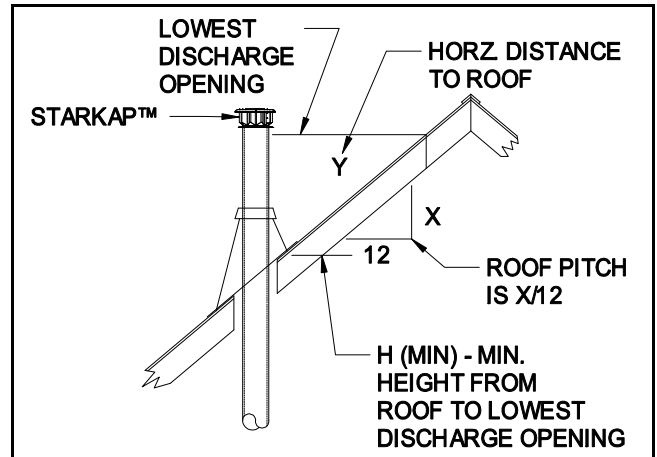

Figure 1
1. Install and secure the vertical vent, gas vent or metal vent according to manufacturer's instructions or in accordance with NFPA 54 National Fuel Gas code or CSA-B149.1 the National Building Code of Canada and the Installation Code for Gas Burning Equipment or applicable local codes. The termination of the vertical vent or metal vent **MUST** be installed in accordance with the height and roof pitch table (See Figure 1 or Table 1 or refer to NFPA 54 or CSA-B149.1 for requirements). These minimum heights may be used if the vertical gas vent is not less than 8 feet from any vertical wall. For other installations, the termination shall be not less than 2 feet above the highest point where the vertical vent passes through the roof and at least 2 feet higher than any portion of a building within 10 feet.